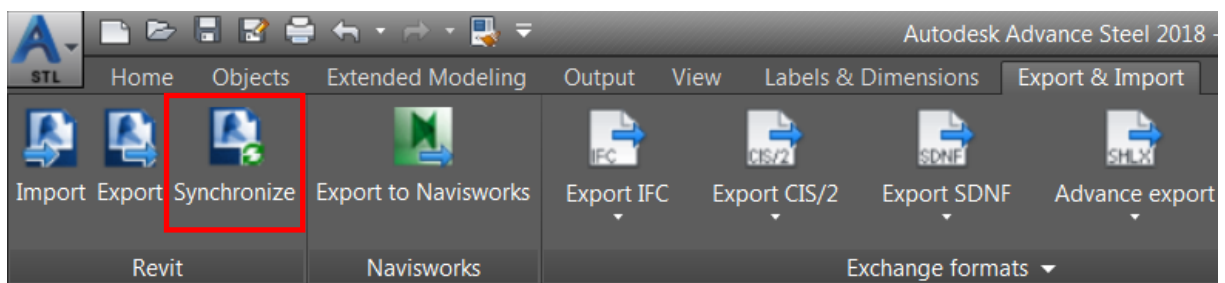

FIGURE 25: SYNCHRONIZING THE AUTODESK REVIT MODEL
1. In Advance Steel, from the **Export & Import** ribbon tab > **Revit** ribbon panel, click **Synchronize**, as shown in Figure 25.
***Tip:** You can right-click on the **Status** column in the dialog box and select additional columns. For example, in Figure 25, the **Section** and **Section – File** columns are added using this method.*